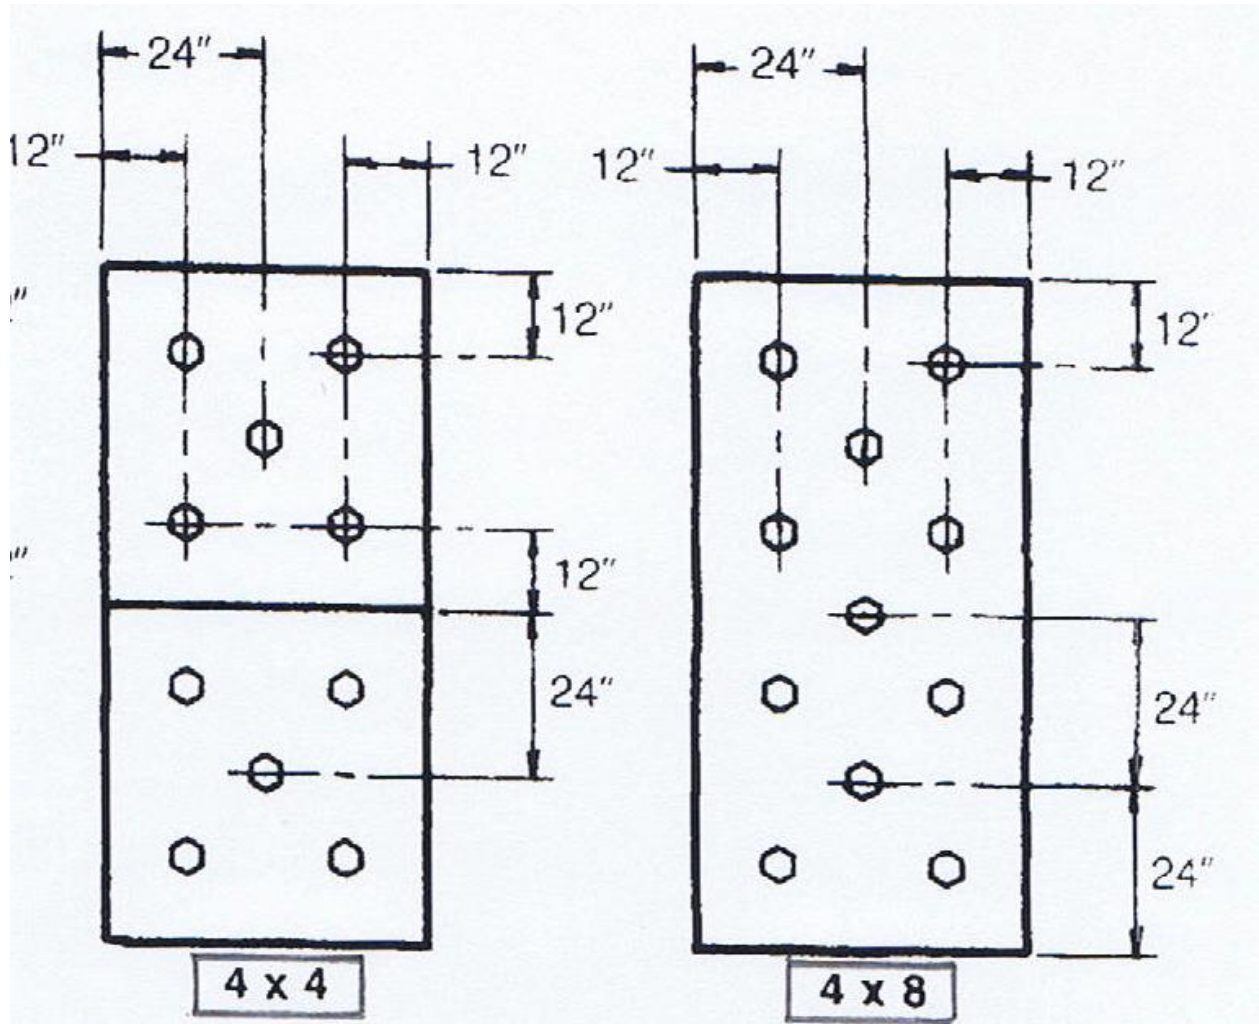

Figure 1. Insulation Fastening Patterns
Insulation: 2" rigid insulation, H-Shield by Hunter Panels. Installed over the steel deck. Secured to the steel deck with Dekfast No. 14 x 4-1/2" long insulation deck fasteners and Dekfast steel stress insulation plates. The insulation plates are 2-7/8" across the plate and can be hexagonal, square, or circular. Use minimum of five fasteners (5) per 4'x4' board or ten (10) fasteners per 4'x8' board. The fasteners must have a minimum penetration of 5 threads through the bottom of the deck. Refer to Figure 1 for insulation fastening patterns.